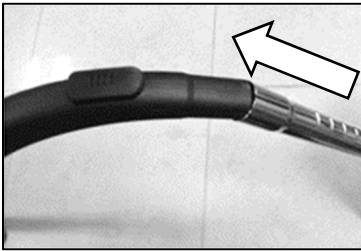

Fig 3
3. **Connect the telescopic tube to the curves:** Connect end of the hose to the telescopic tube.(Fig 3)
4. **Connect different nozzle tools to the tube for different cleaning purpose:** Insert floor brush into telescopic tube. Adjust and choose accessories to the type of ground, for carpet or floor (Fig 3); 2in1 combine brush & nozzle for sofa, wall surface, curtain, corner or space between furniture etc.